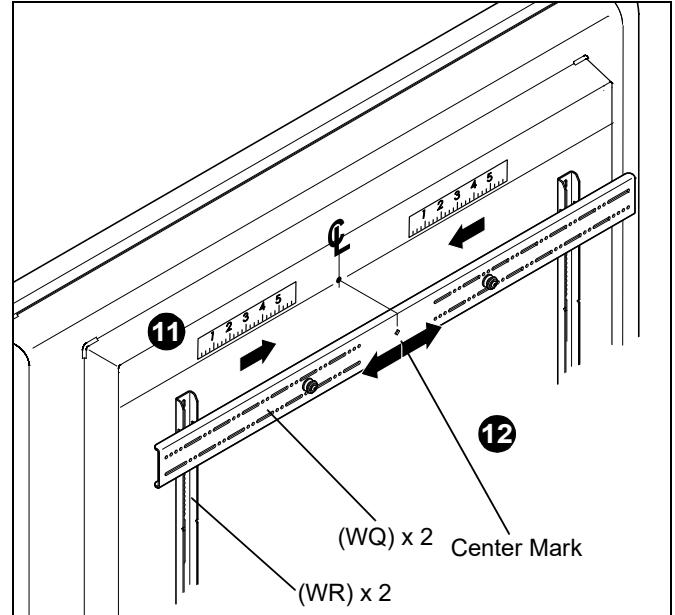
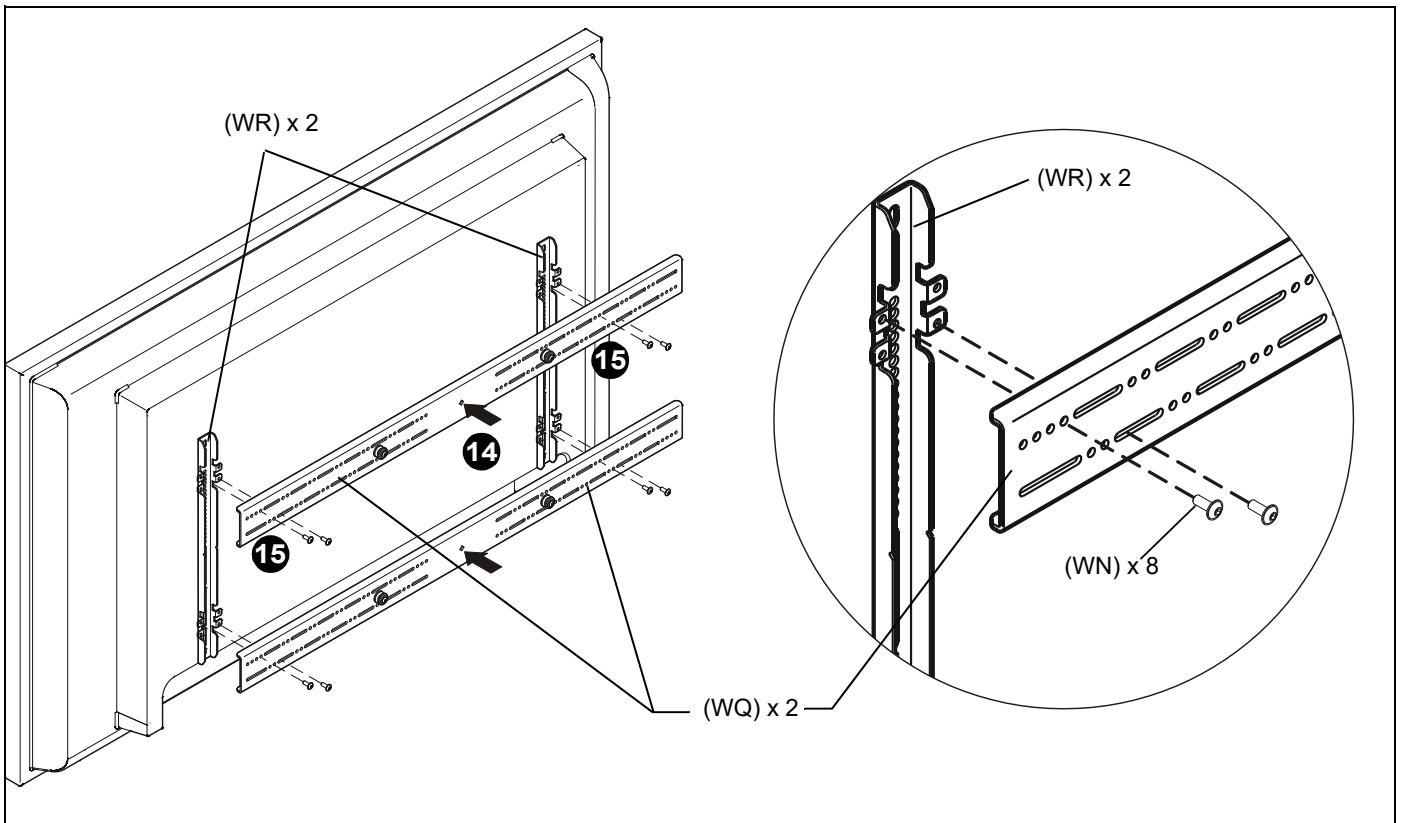

Figure 18
Figure 19
11. Determine and mark the horizontal center position between the Left and Right *TOP* mounting holes in display. (See Figure 18)
12. Determine and mark the horizontal center position between the Left and Right *BOTTOM* mounting holes in display. (See Figure 18)
13. Orient upper horizontal mounting bracket (WQ) so that flanges are facing towards display and resting in recessed area of left and right vertical mounting brackets (WR). (See Figure 18)
14. Adjust Upper horizontal mounting bracket (WQ) position until center diamond in horizontal mounting bracket (WQ) aligns with mark made in Step 11, and mounting holes and slots in horizontal mounting bracket (WQ) are aligned with threaded holes in mounting tabs of left and right vertical mounting brackets (WR). (See Figure 18) and (See Figure 19)
15. Use 1/8" hex key (WP) to secure upper horizontal mounting bracket (WQ) to left and right vertical mounting brackets (WR) using four button head flanged screws (WN). (See Figure 19)
16. Repeat Steps 12 through 15 for lower horizontal mounting bracket (WQ).
align upper and lower brackets by aligning holes or end of slots. (See Figure 19)
**IMPORTANT !** : Whenever possible install mounting screws diagonally as shown in detail in Figure 19.
17. Install display by inserting mounting buttons on horizontal mounting brackets (WQ) into teardrop mounting holes on faceplate making sure latching flags are in "open" position.